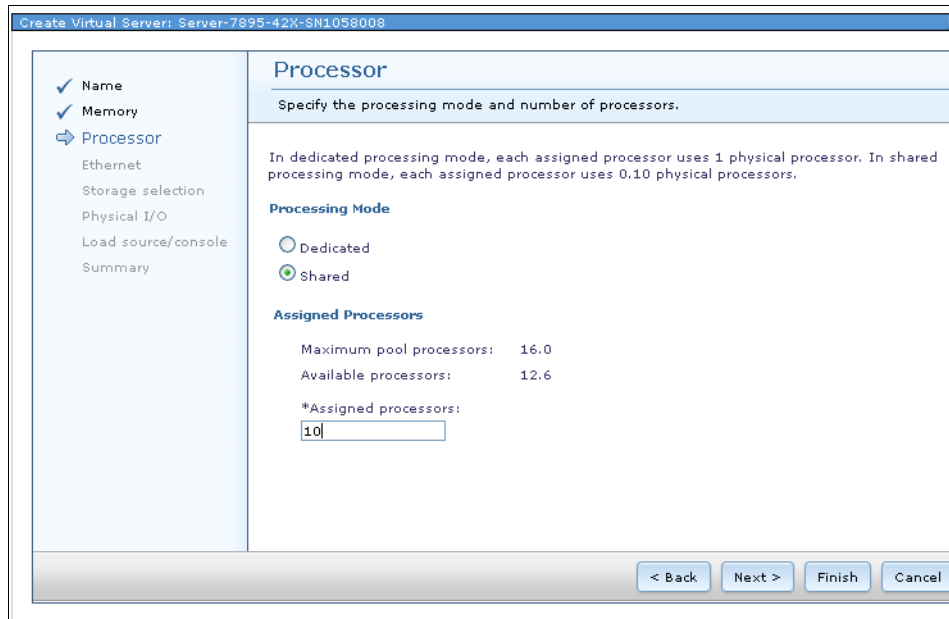

Figure 8-76 IBM i virtual server processor settings
3. In the processor settings window, choose a quantity of processors for the virtual server, as shown in Figure 8-76. Click **Next**.